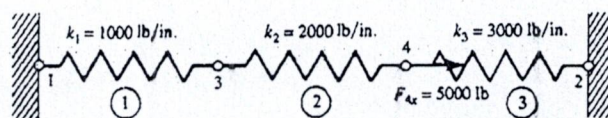

Fig. 4.1
4. (a) Using the potential energy approach, obtain the global matrix for Fig. 4.1. 8